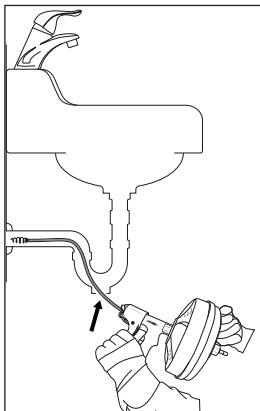

Fig. 1
- ▶ Prepare the appliance and work area according to these instructions to reduce the risk of injury from electric shock, fire, the appliance tipping over, a twisted or broken spiral ⑧, injury from chemicals, infections or other causes and to prevent damage to the appliance.
- For other washbasins, a cleaning plug or an odour trap may need to be removed (see Fig. 1). Be sure to place a container under the cleaning opening or under the odour trap to catch any leaking water.